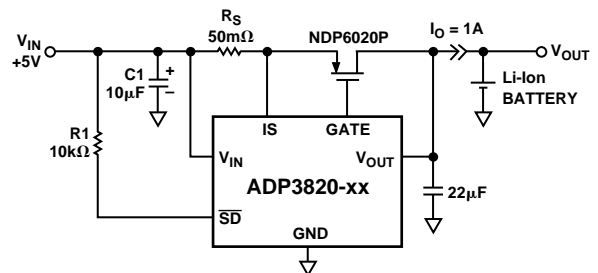
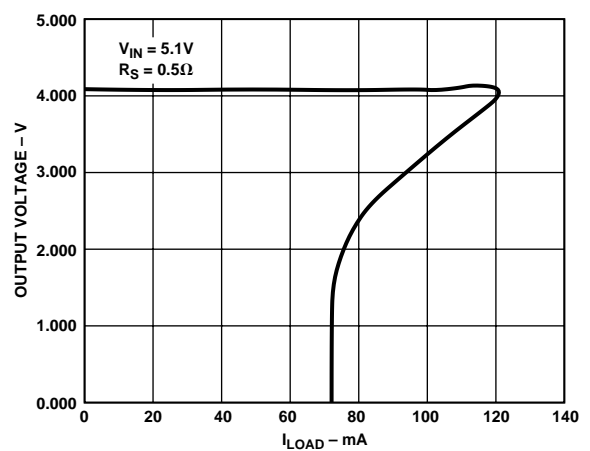

Figure 1. Li-Ion Charger Application Circuit
Figure 13. Current Limit Foldback*
| LOAD REGULATION | $I_{OUT} = 10 \text{ mA}$ to 1 A, Circuit of Figure 1 | | -10 | | +10 | mV |
| LINE REGULATION | $V_{IN} = V_{OUT} + 1 \text{ V}$ to 15 V $I_{OUT} = 0.1 \text{ A}$ Circuit of Figure 1 (No Battery) | | -10 | | +10 | mV |
*Reference Figure 1.
When fully charged, the circuit in Figure 1 works like a well known linear regulator, holding the output voltage within the specified accuracy as needed by single cell Li-Ion batteries. The output is sensed by the V_{OUT} pin. When charging a discharged battery, the circuit maintains a set charging current determined by the current sense resistor until the battery is fully charged, then reduces it to a trickle charge to keep the battery at the specified voltage. The voltage drop across the R_S current sense resistor is sensed by the IS input of the ADP3820. At minimum battery voltage or at shorted battery, the circuit reduces this current (foldback) to limit the dissipation of the FET (see Figure 13). Both the V_{IN} input and V_{OUT} sense pins of the IC need to be bypassed by a suitable bypass capacitor.
For the circuit shown in Figure 1, the required θ_{JA} thermal impedance can be calculated as follows: if the FET data sheet allows a max FET junction temperature of $T_{JMAX} = 150^\circ\text{C}$, then at 50°C ambient and at convection cooling, the maximum allowed ΔT junction temperature rise is thus, $T_{JMAX} - T_{AMAX} = 150^\circ\text{C} - 50^\circ\text{C} = 100^\circ\text{C}$.
The maximum current for a shorted or discharged battery is reduced from the set charge current by a multiplier factor shown in Figure 13 due to the foldback current limiting feature of the
The power FET is protected during short circuit conditions with a foldback type of current limiting that significantly reduces the current. See Figure 13 for foldback current limit information.